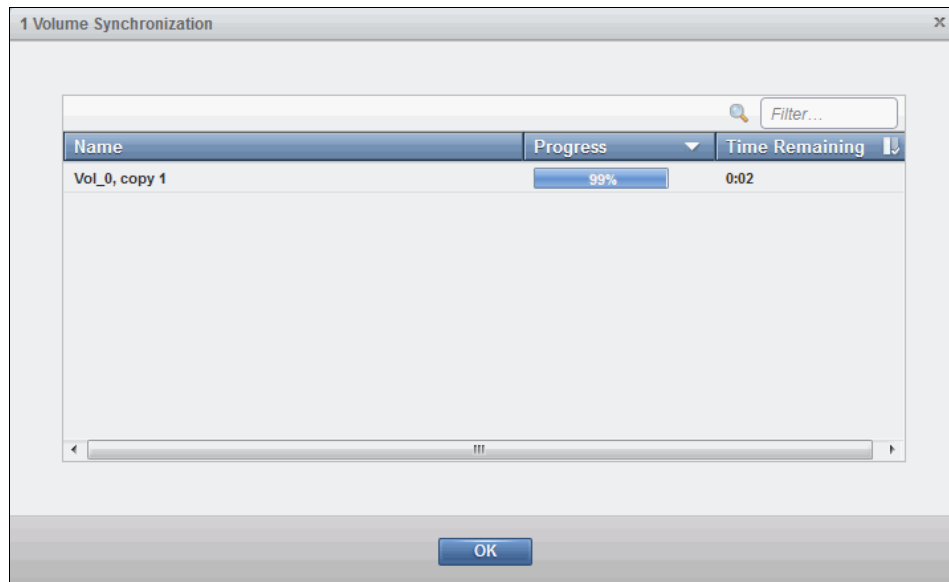

Figure 3-32 Volume Synchronization task pane
2. For an indication of the task progress, browse to the Running Tasks bar menu and click the required task. This opens the task and show its progress, as shown in Figure 3-32.